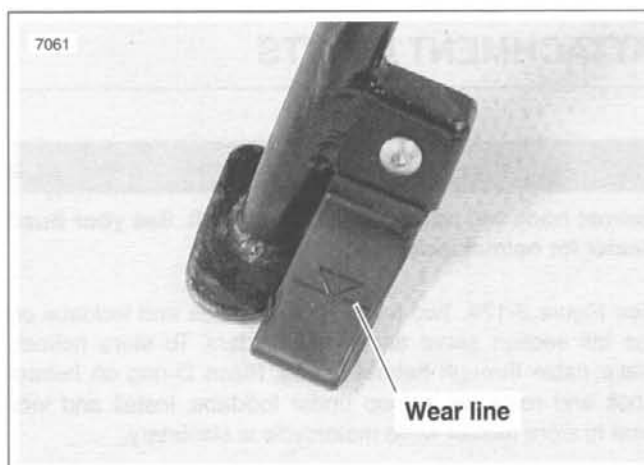

Figure 2-177. Side Stand Dragger Wear Limit
1. Replace dragger when worn to wear line shown in Figure 2-177.